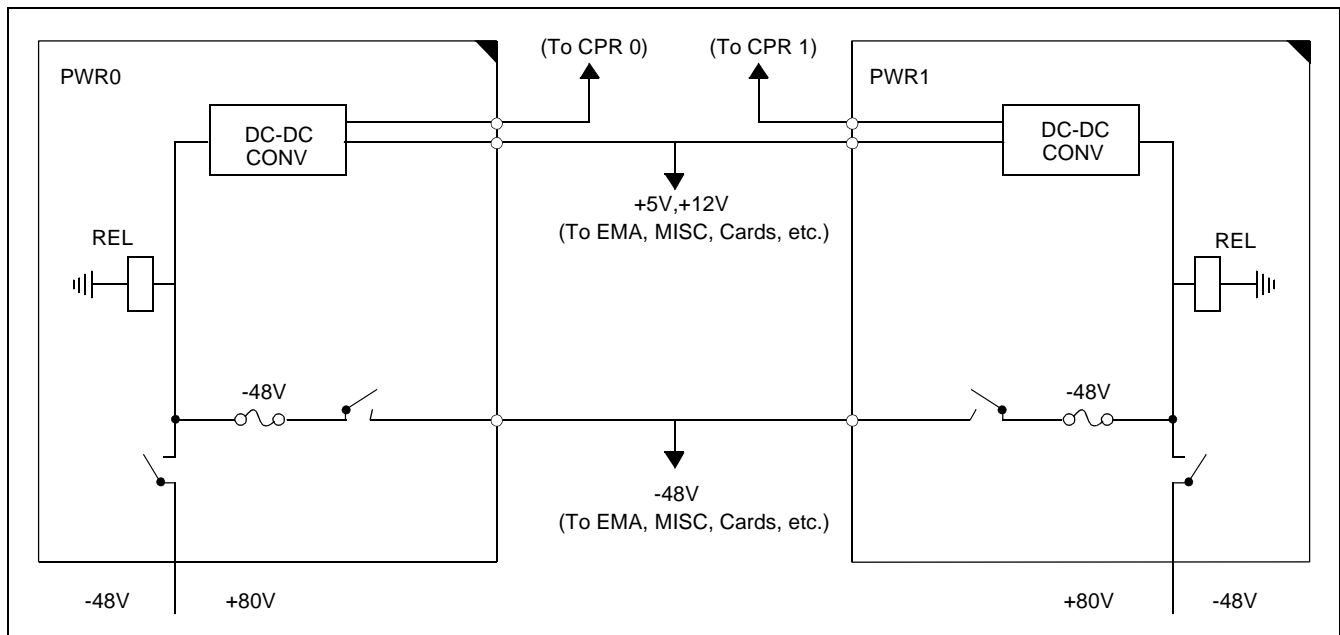

Figure 5-19 Power Supply to LPM (LN/ISW)
(5) Figure 5-19 shows the power supply system for LPM.